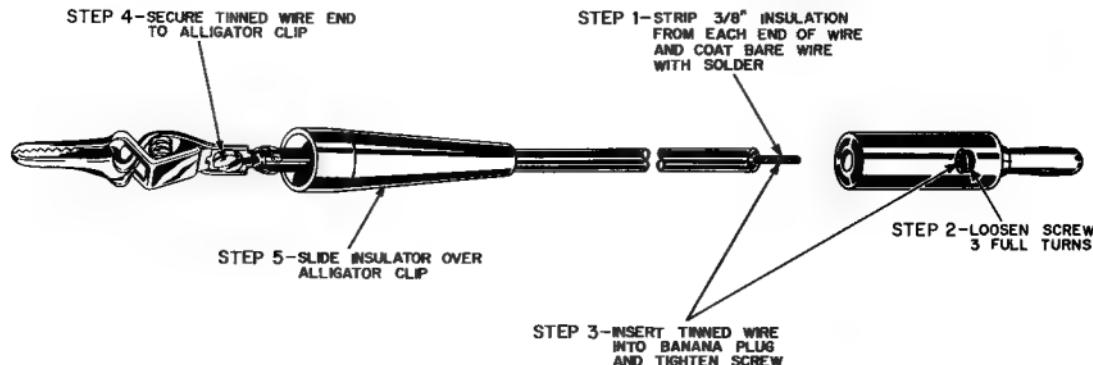

FIGURE 15. HOW TO ASSEMBLE THE TEST LEADS
- Assemble one red and one black test lead as shown in Figure 15.